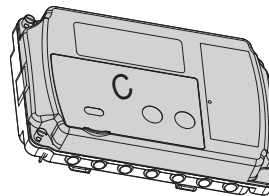

Fig. 5
9. Remove the C cover of the calculator (Fig. 5)